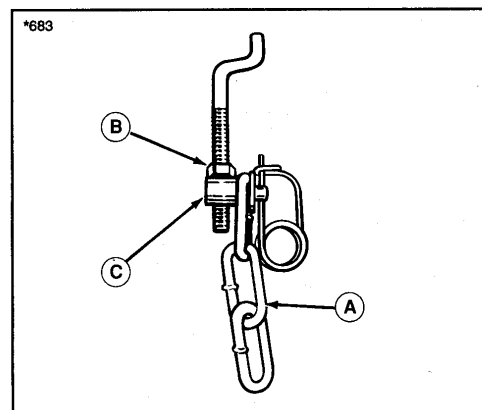

Figure 51. Lift Assembly - Large Lift Lever
4. To adjust, disconnect trunnion (C, figure 51) from lift chain. Loosen the nut and turn trunnion to raise or lower mower. Tighten nut when measurement is correct.